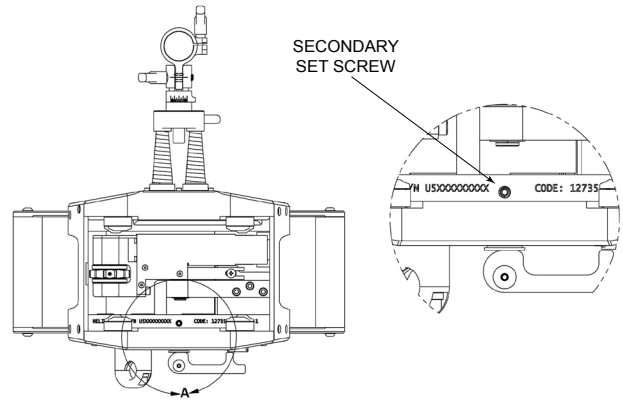

FIGURE 13 - Secondary Clamp Set Screw
3. Then loosen the secondary set screw on the underside of the HELIX M85 weld head, see **Figure 13 - Secondary Clamp Set Screw**.